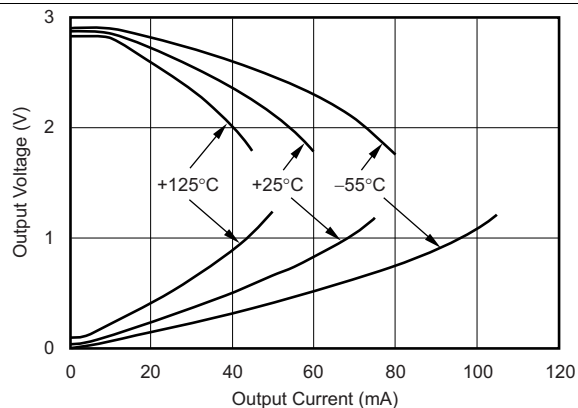
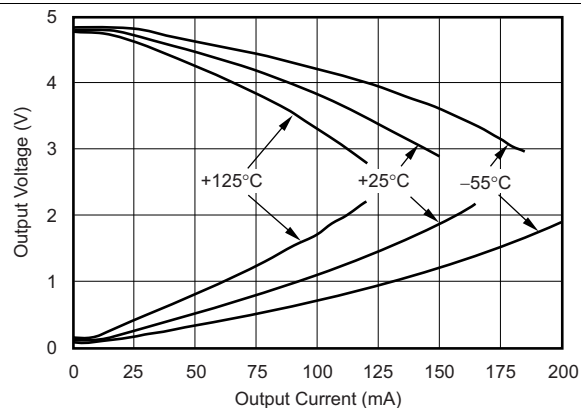

FIG 14. Output Voltage Swing vs Output Current for $V_S = 3\text{ V}$
FIG 15. Output Voltage Swing vs Output Current for $V_S = 5\text{ V}$
(1) See typical characteristic curves, *Output Voltage Swing vs Output Current* (Fig. 14 and Fig. 15).
(2) Specified by design.
(3) Operating in this temperature range will not damage the part. However, degraded performance may be observed.
A class AB output stage with common-source transistors is used to achieve rail-to-rail output. For high-impedance loads ($> 200 \Omega$), the output voltage swing is typically 100 mV from the supply rails. With 10- Ω loads, a useful output swing can be achieved while maintaining high open-loop gain. See the typical characteristic curves, *Output Voltage Swing vs Output Current* (Figure 14 and Figure 15).
The TLV354x output stage can supply a continuous output current of ± 100 mA and yet provide approximately 2.7 V of output swing on a 5-V supply, as shown in Figure 21. For maximum reliability, it is not recommended to run a continuous DC current in excess of ± 100 mA. Refer to the typical characteristic curves, *Output Voltage Swing vs Output Current* (Figure 14 and Figure 15). For supplying continuous output currents greater than ± 100 mA, the TLV354x may be operated in parallel, as shown in Figure 22.